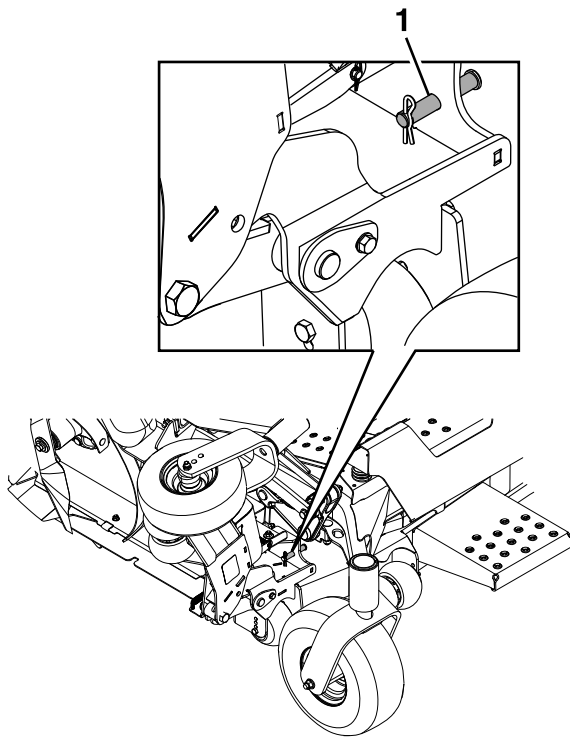

Figure 17
1. Remove the clevis pin and hairpin cotter that secures each wing in the upright position and place them in the storage position (Figure 17).